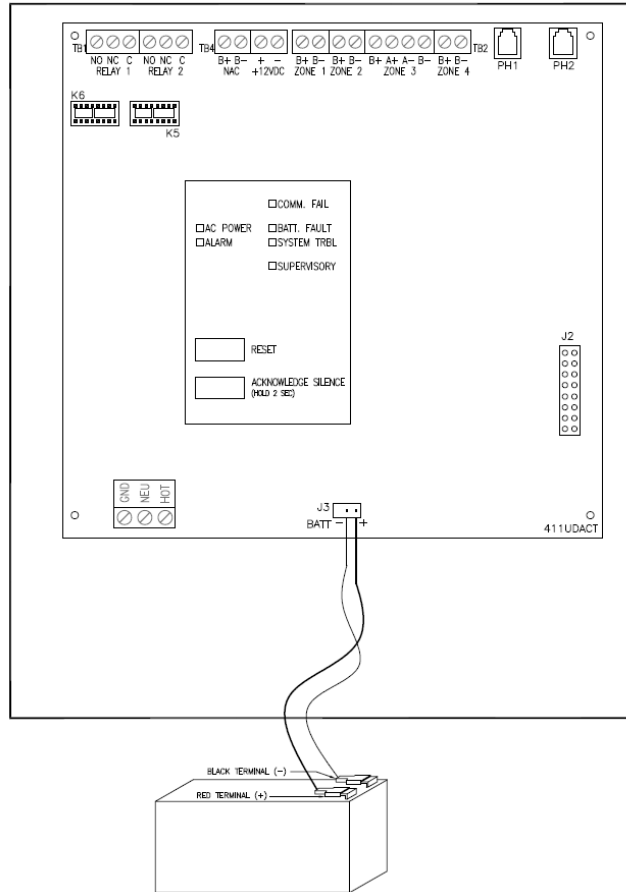

Figure 10 – Battery Wiring
3.3.5.4. Battery Wiring. See Figure 10. **DO NOT** connect battery until commissioning.